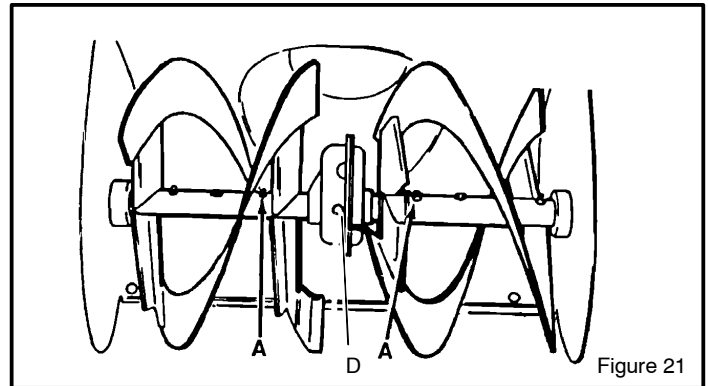
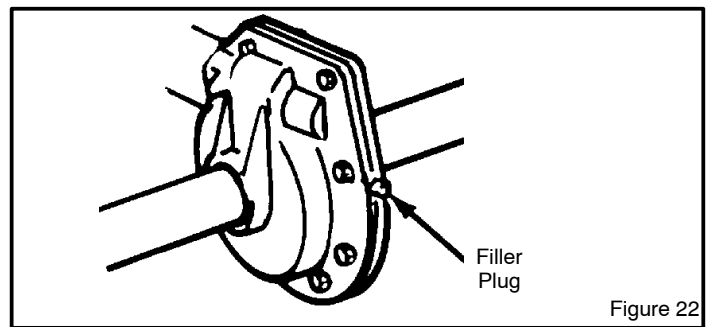

Figure 21
Figure 22
Remove filler plug D (Figure 21 and Figure 22), once a year. If grease is visible, do not add. If grease is not visible, use a piece of fine wire, like a dipstick to check if there is grease in the gear box. Mobilux EP1 and Shell Aldania EP1 are suitable equivalents.
1. **Auger Shaft** - Using a hand grease gun, lubricate the auger shaft zerk fittings (A) every ten (10) operating hours. Each time a shear bolt is replaced, the auger shaft **MUST** be greased (Figure 21). (See To Replace Auger Shear Bolt in the MAINTENANCE section).